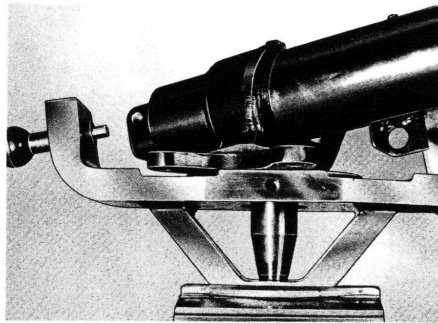

Fig. 7
- a. Clamp special tool P 286b in the vise. Push the bearing journal of the suspension or shock absorber strut, with spacer ring in position, into the gage holes on special tool P 286b. (See Fig. 7.)